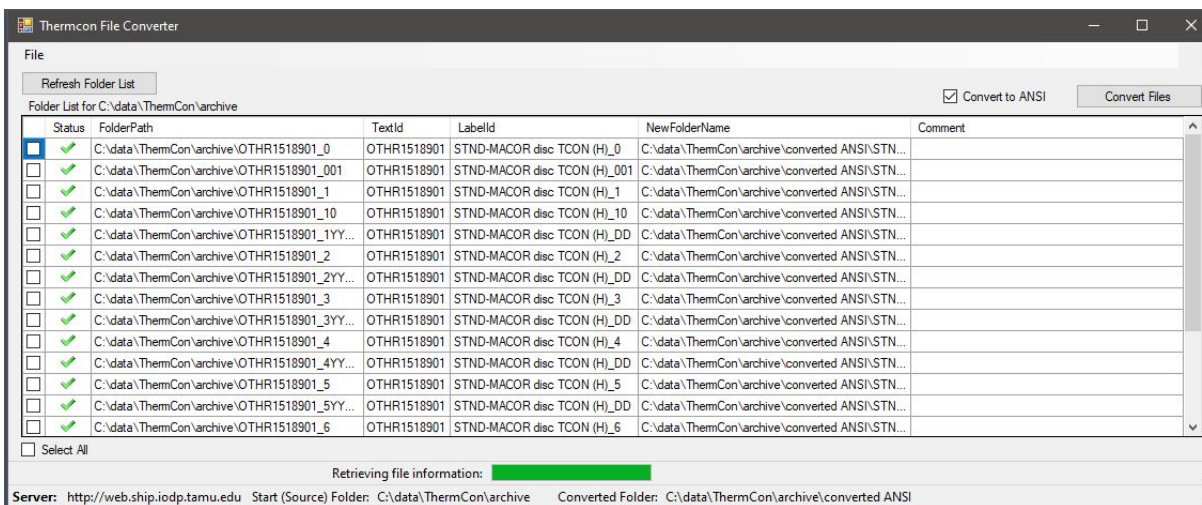

Figure 5. **Thermcon File Converter** window.
- **Thermcon File Converter** (Figure 5): This program helps to convert TK04 format files to ANSI format. **REVIEW**